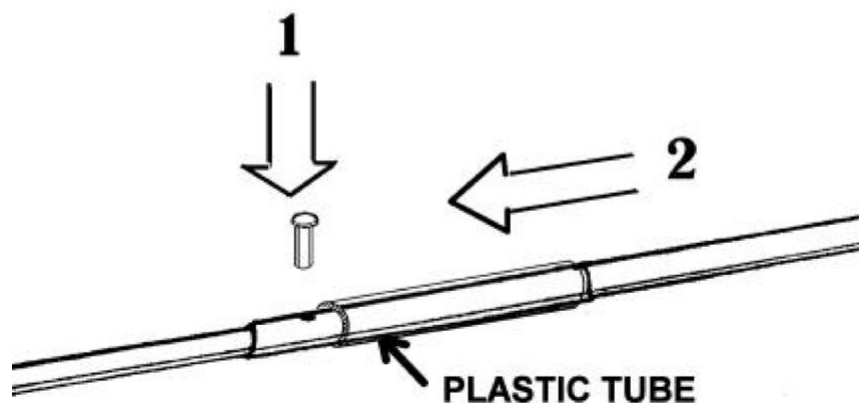

Fig. 21
2.1.23. Remove the battens from the bag. Battens No.1 and No.2 are dismantlable for a transportation in a short package. Assemble them using pins provided and secure with plastic tube (Fig. 21).